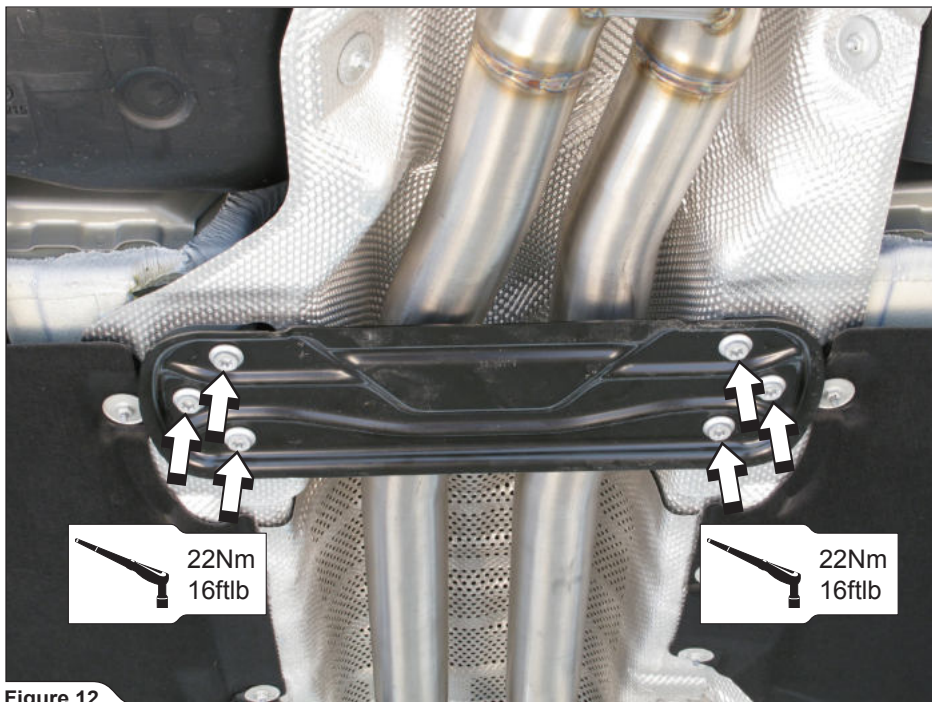

Figure 12
5. Reinstall the chassis reinforcement back onto the vehicle (**Figure 12**).